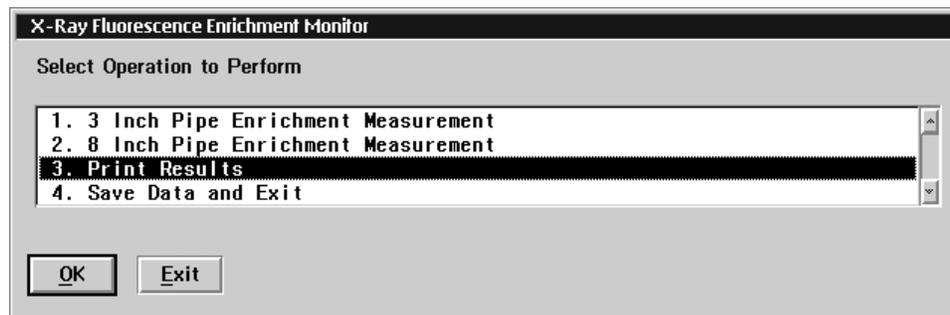

Figure 37. Main menu, indicating selection of “Print Results” to print results of all current measurements.
25. Once back in the main menu, the results obtained so far can be printed by selecting “Print Results” then “OK” (see Figure 37).